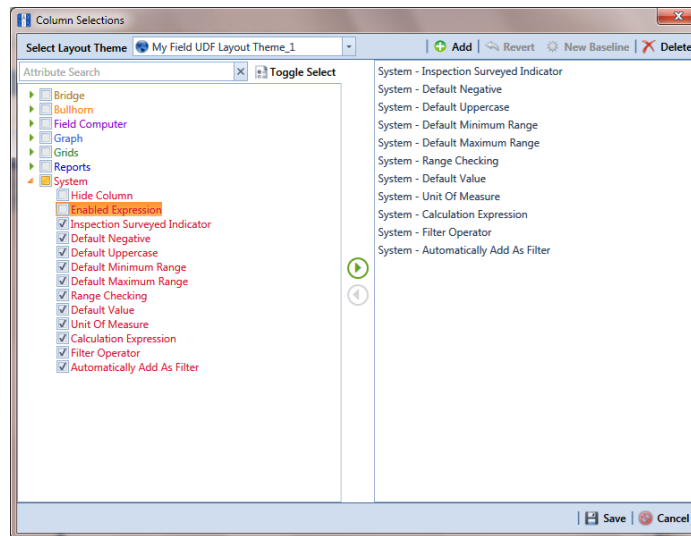

Figure 3-28. Column Selections
- 8 Choose which fields to include in the layout theme. Select a field in the left pane and then click the top arrow button  to move the field to the right pane. Repeat this step as needed (Figure 3-28, page 67).
- a Click  **Customize** to open the *Column Selections* dialog box (Figure 3-28, page 67).